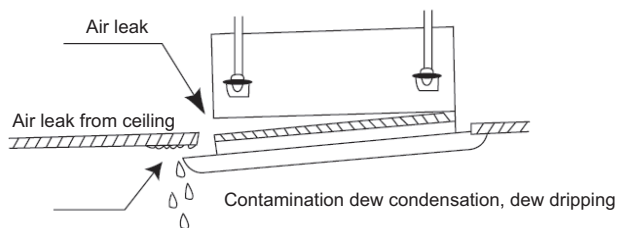

Figure 1-3-14
- ◆ Improper screwing of the screws may cause the troubles shown in Figure 1-3-14.